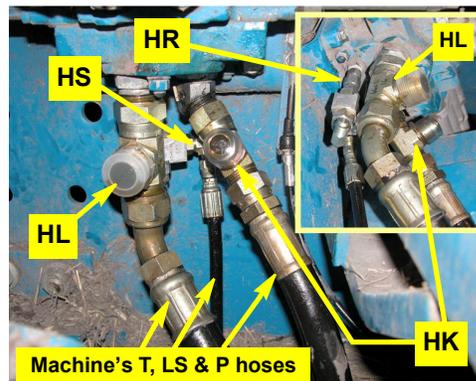

Figure 4c: Load sense valve and run-tees installed, machine's hoses reconnected
- c. Disconnect the load sense line then connect the assembled load sense valve **HP** to the valve stack using fitting **HR** (Figure 4c inset). Connect the machine's load sense hose to the load sense valve at fitting **HS** (Figure 4c).
- d. Disconnect the pressure and tank hoses and install run-tees **HK** and **HL** to the pressure and tank ports on the valve stack respectively. The tank port is the larger of the two (#16). Reconnect the machine's pressure and tank hose to the open 'T' ends of the two run-tees (Figure 4c with inset).